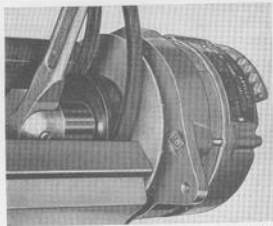

Fig. 3-6. Removing pulley nut
2. Fix the pulley with belt in a vice with soft jaws, see Fig. 3-6.